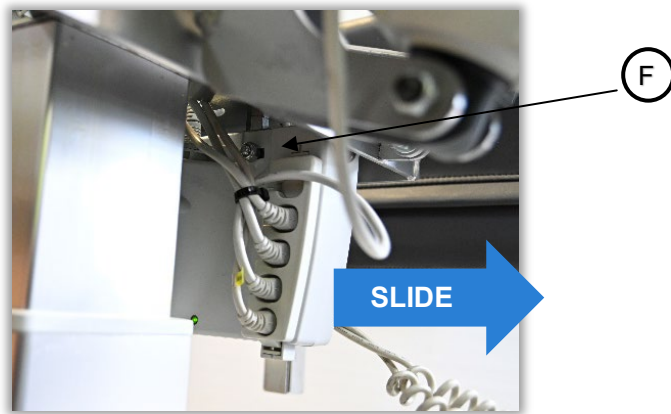

FIGURE 5. CONTROL BOX
10. Once the control box disconnected, undo the bolt and nut (**F**) located on the side of the bracket and slide control box as directed in **Figure 5**.